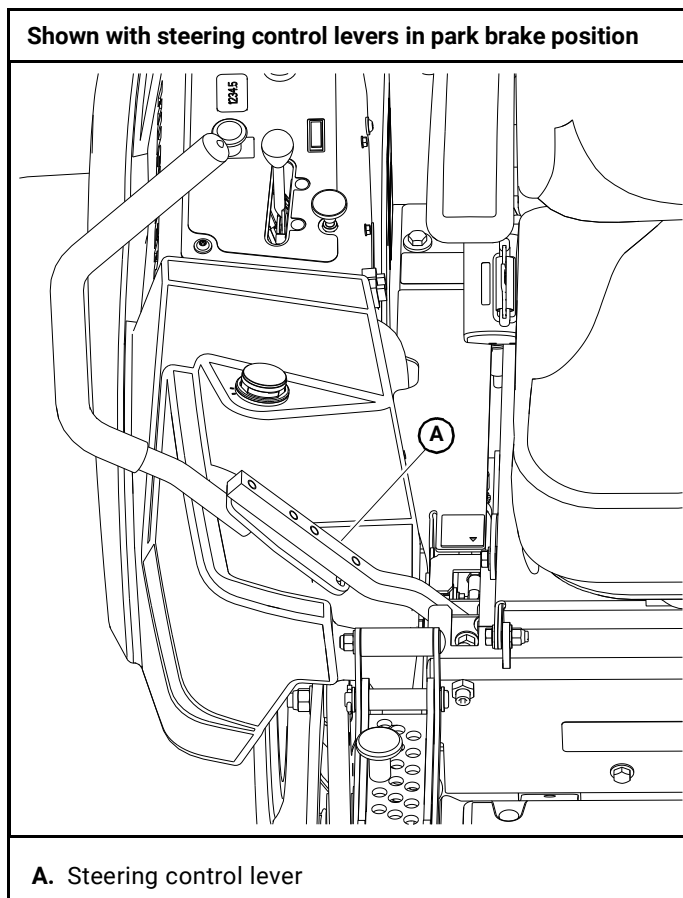
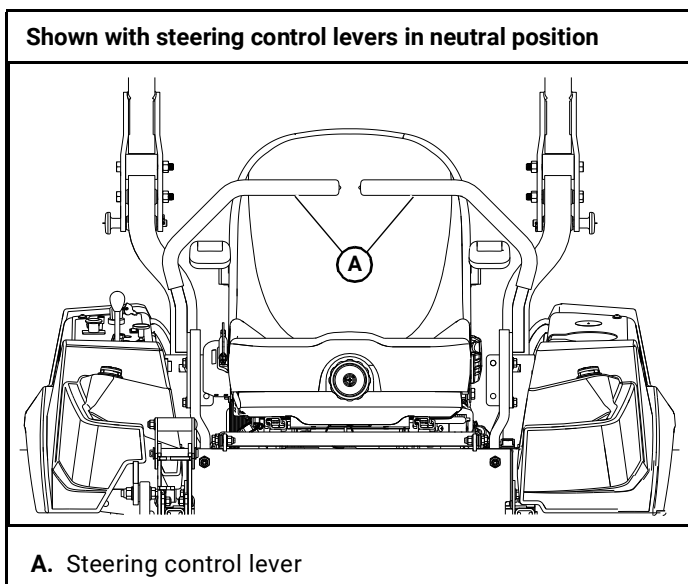

Figure 3-5
Figure 3-4
- A. **Steering control levers (Figure 3-4 & Figure 3-5)** – these levers control the mower’s speed, direction, stopping, and park brake.